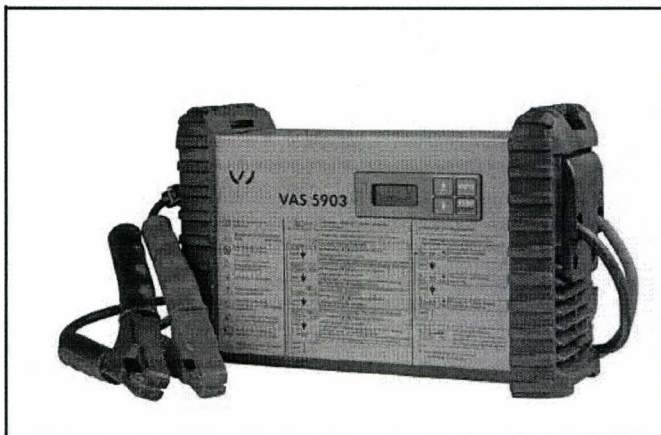

Figure 2
1. Connect a suitable approved battery charger (Figure 2) Refer to Workshop Manual Rep.Gr 27 - Starter-current supply- CC - Batteries - To charge